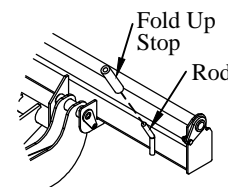

Figure 4: Platform stop location.
5. **Install** the fold up stop on the rod on the main assembly (Figure 4).